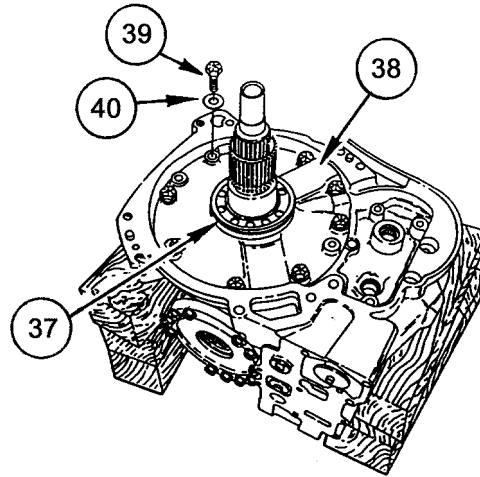

Figure 10. Bevel Gear Assembly.
27. Position Bevel Gear Assembly on wooden blocks (WP 0024, Item 3) as shown in Figure 10.
28. Remove packing (37) from sleeve of Diaphragm Assembly (38). Discard packing (37).
29. Remove nine bolts (39) and nine washers (40) that retain Diaphragm Assembly (38).